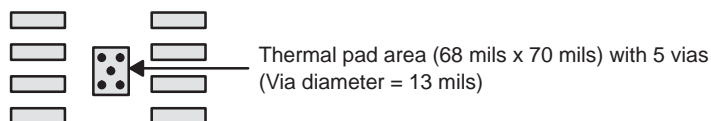

Figure 45. PowerPAD PCB Etch and Via Pattern
1. Prepare the PCB with a top side etch pattern as shown in Figure 45. There should be etch for the leads as well as etch for the thermal pad.